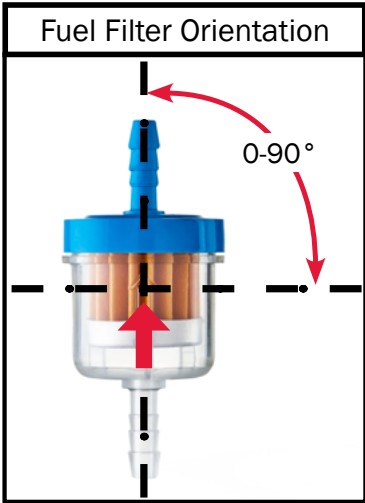

Figure 69
- The fuel filter should be installed before the fuel inlet of the fuel pump. Make sure orientation and position of the filter is accurate with the flow of fuel (Figure 69).